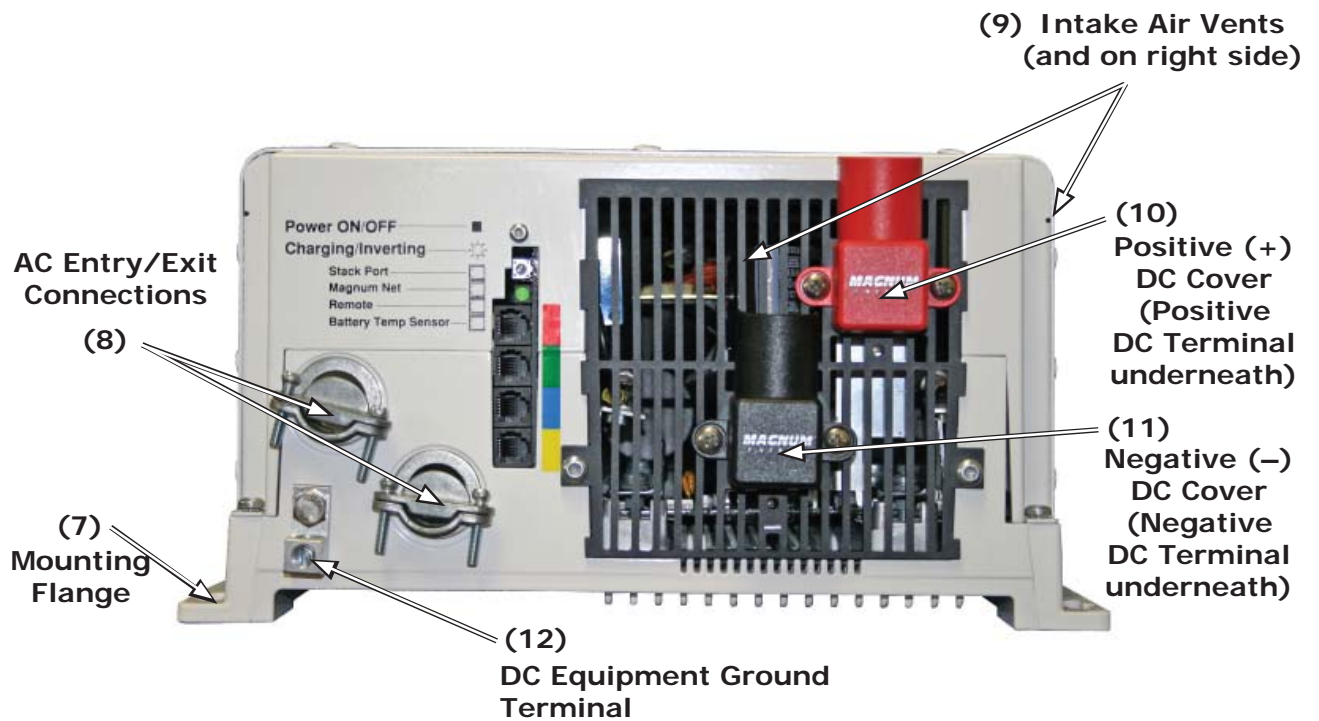
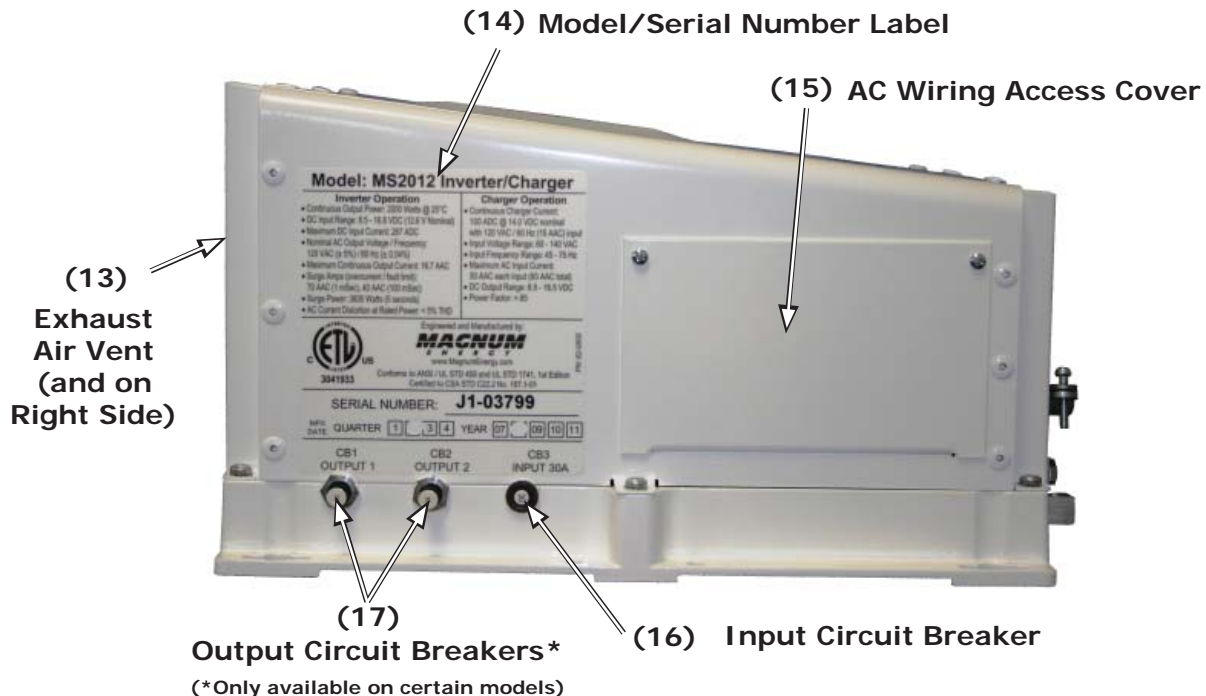

Figure 1-2, Electrical Connection Points
Figure 1-3, Left Side Features
The left side of the MS Series is equipped with the following features (see to figure 1-3):
Ventilation - In order for the inverter to provide full output power and avoid over temperature fault conditions; do not cover or block the inverters ventilation openings or install this inverter in an area with limited airflow. The inverter uses two fans to provide forced air cooling, these fans pull in air through the intake vents (see item 9 in figure 1-2) and blow out air through the exhaust vents (see item 13 in figure 1-3). Allow at the minimum, an airspace clearance of 6" at the intake and exhaust vents and 3" everywhere else to provide adequate ventilation.